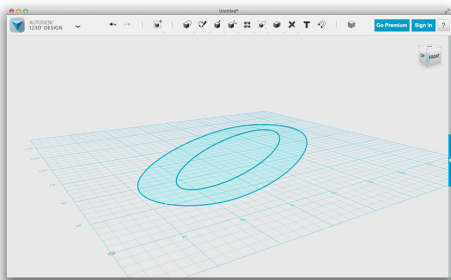

Figure 4-89 An ellipse with an offset
4. Enter your measurement (estimate if you're not sure), and then select the green check button or press the Enter key, and your offset will be finished (Figure 4-89).